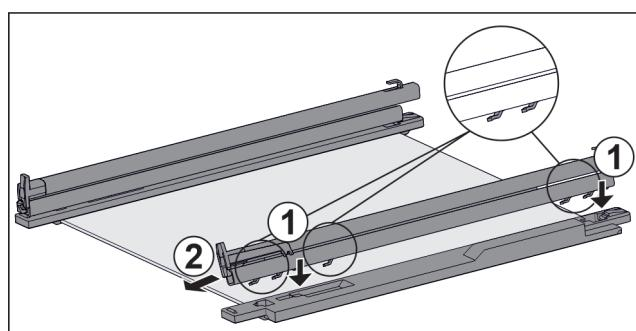

Fig. 128 Glass shelf with rails and retaining parts
- Place rail hooks onto the openings of the **left** retaining part. Fig. 128 (1)
- Push rail forwards. Fig. 128 (2)
- Place rail hooks onto the openings of the **right** retaining part. Fig. 128 (1)